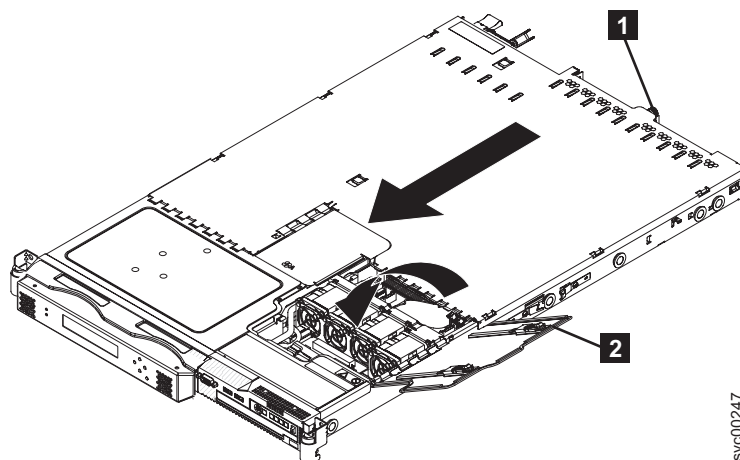

Figure 95. The SAN Volume Controller 2145-8G4 with fan door open
3. Tighten the thumbscrew (1), which is shown in Figure 95, until the cover correctly engages all the inset tabs on the SAN Volume Controller 2145-8G4.